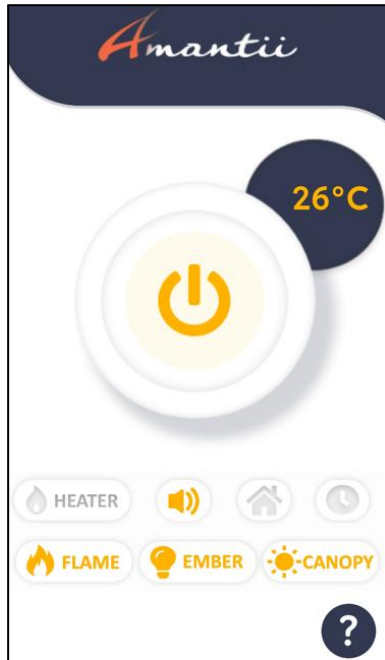
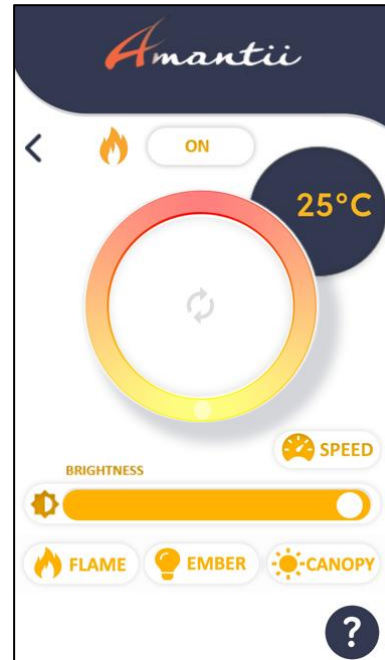
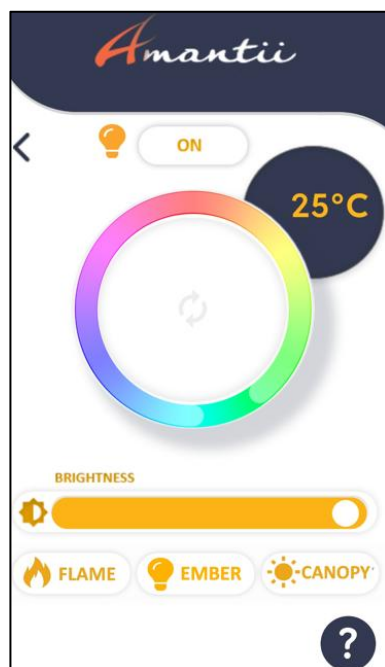

FIG.8
FIG.9
FIG.10
6. Now you are in the interface like FIG.8. You can operate the fireplace via Wi-Fi (FIG.8/ FIG.9/ FIG.10/ FIG.11).